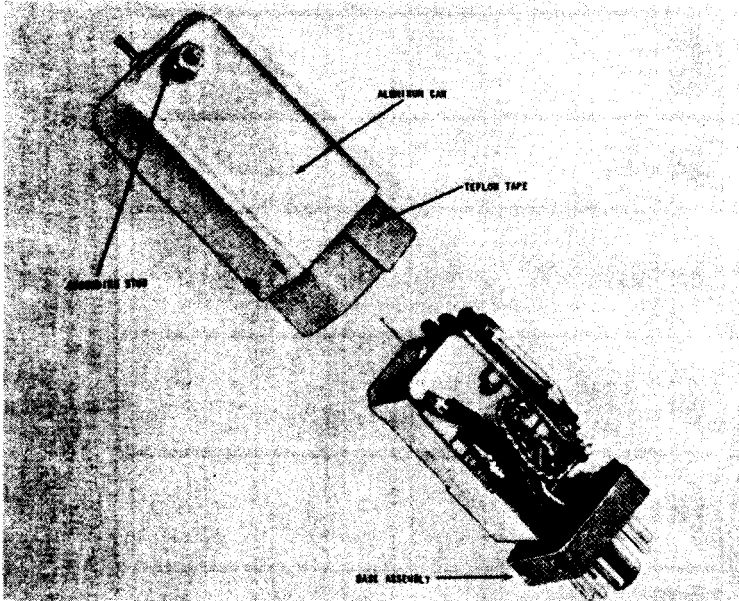

Figure 7-9. Trigger Amplifier Z-101, Preparation for Re-assembly
e. RE -ASSEMBLY AND REPLACEMENT OF Z101 (fig. 7-9)
- Step 4. Position the teflon tape inside the can as shown in figure 7-9 and orient the base assembly properly with respect to the grounding stud on the can. Also check that the ground clip at the base of Z101 is properly located.